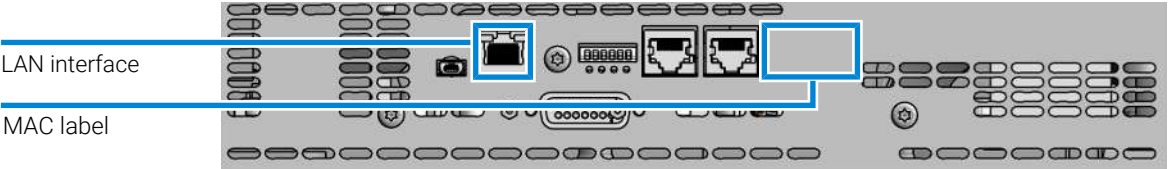

Figure 52: Location of LAN interfaces and MAC label
- 1 Note the MAC (Media Access Control) address for further reference. The MAC or hardware address of the LAN interfaces is a world wide unique identifier. No other network device will have the same hardware address. The MAC address can be found on a label at the rear of the module underneath the configuration switch (see Figure 52 on page 223).